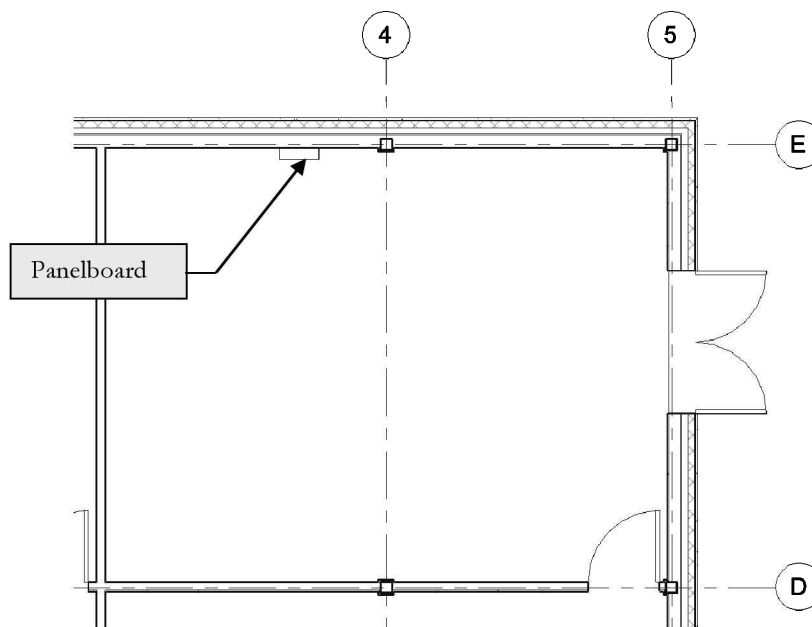

FIGURE 14-3.1 Panelboard placed in *Mechanical and Electrical Room*
5. Place the panel as shown in Figure 14-3.1.